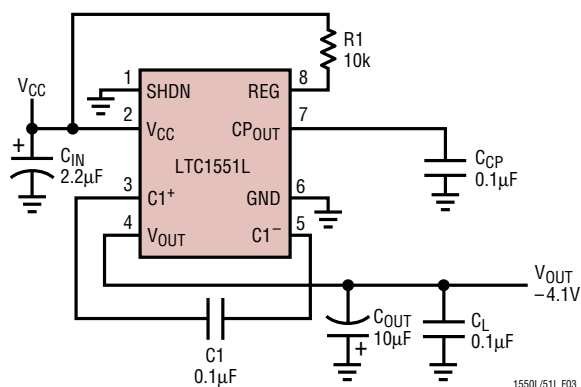
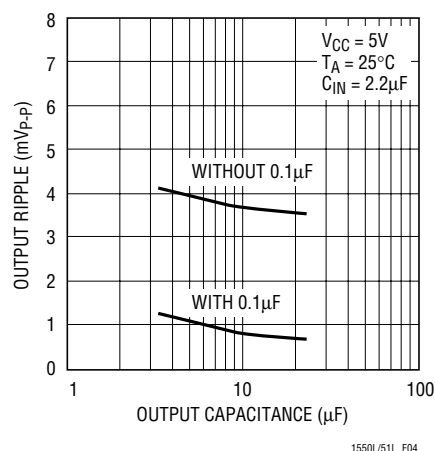
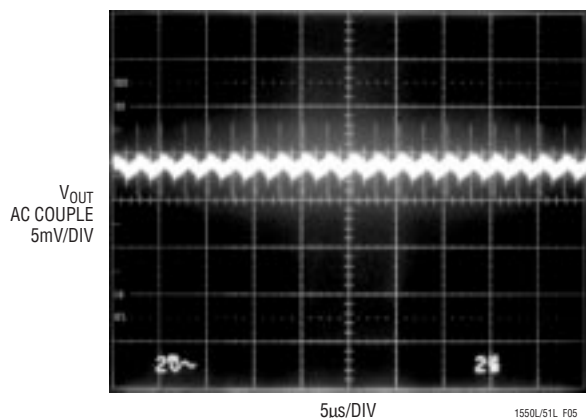

Figure 3. Output Ripple Test Circuit
Figure 4. Output Ripple vs Output Capacitance
Figure 5. Output Ripple with  $10\mu\text{F}$  Tantalum Capacitor
**Load Transient Response (See Figure 3,  $V_{CC} = 5V$ )**
**Line Transient Response (See Figure 3,  $I_L = 10mA$ )**
Output Spectrum (See Figure 3)
Spot Noise (See Figure 3)
Figure 4 shows the effect of using different output capacitor values on the LTC1550L/LTC1551L output ripple. These curves are taken using the LTC1551L circuit in Figure 3, with CIN = 2.2μF and ILOAD = 5mA. The upper curve shows the performance with a standard tantalum capacitor alone and the lower curve shows that of the tantalum capacitor in parallel with a 0.1μF ceramic capacitor. As a general rule, larger output capacitors provide lower output ripple. To keep output voltage ripple below 1mVP-P, 10μF, or greater, in parallel with a 0.1μF ceramic capacitor is required. To guarantee loop stability under all conditions, a minimum of 4.7μF is required at the output.
Figure 4 shows a marked decrease in peak-to-peak output ripple when a  $0.1\mu\text{F}$  ceramic capacitor is added in parallel with the tantalum output capacitor. The additional ripple with the tantalum output capacitor alone is mostly very high order harmonics of the  $900\text{kHz}$  clock, which appear as sharp "spikes" at the output. The energy in these spikes is very small and they do not contribute to the RMS output voltage, but their peak-to-peak amplitude can be several millivolts under some conditions. A  $0.1\mu\text{F}$  ceramic capacitor has significantly lower impedance at the spike frequency than a large tantalum capacitor, and eliminates most of these left-over switching spikes that the tantalum capacitor leaves behind. Figure 5 and 6 show scope photos of the output of Figure 4 with and without the additional ceramic capacitor at the output.
$C1$ . Surface mount tantalum or ceramic capacitors with low ESR generally provide adequate performance. Figure 7 shows the LTC1550L/LTC1551L peak-to-peak output ripple vs  $C_{IN}$ , taken using the test circuit in Figure 3 with  $I_{LOAD}$  set at 5mA.  $C_{OUT}$  is a  $10\mu F$  in parallel with a  $0.1\mu F$  ceramic capacitor.